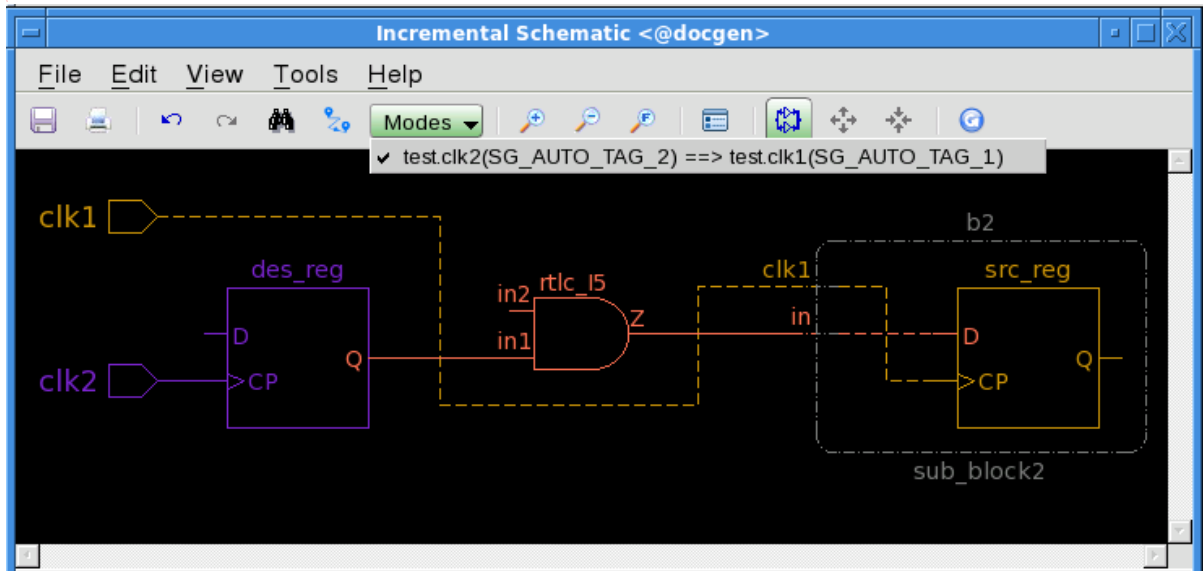

FIGURE 218. Selected Mode in Incremental Schematic
On clicking a spreadsheet row, Incremental Schematic lists all the modes. Clicking on any mode displays the path between the source clock path and the destination clock path as shown in Figure 218:
- Clicking on a message label (for example, net, source, destination pin or power domain) in message in the Schematic Legend pane (Figure 218), highlights/cross probes to the relevant object in the incremental schematic or the Power Intent View window.